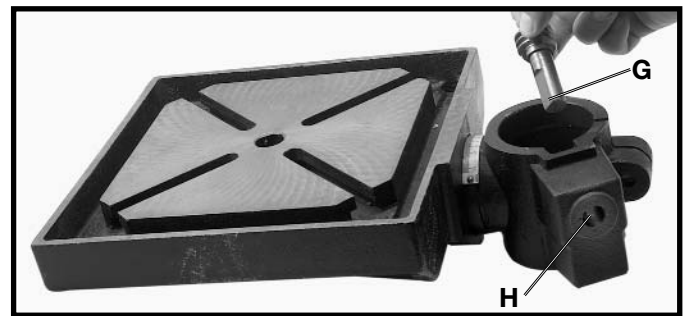

Fig. 4
2. Make certain worm gear (G) Figs. 4 and 5, is in place in table bracket (H) as shown.